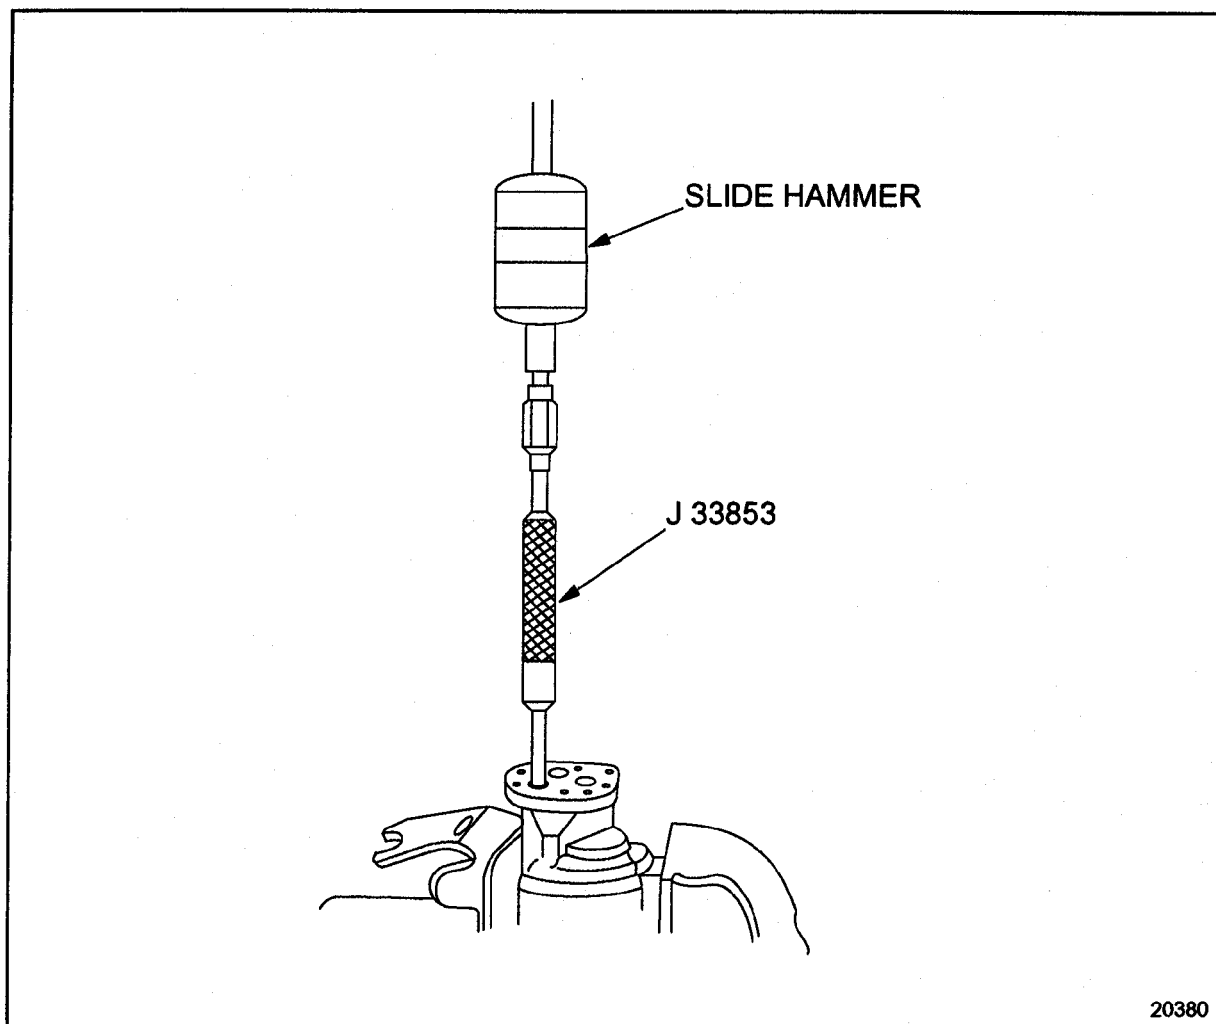

Figure 2-48 Needle Bearing Assembly Removal
9. Use needle bearing remover, J 33853, with slide hammer and remove the needle bearing assemblies from the pump body and cover. See Figure 2-48.